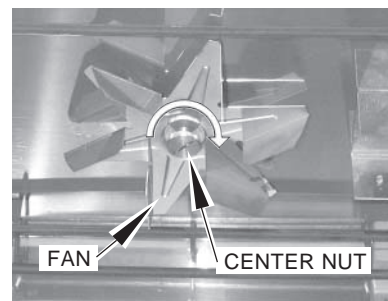

Fig. 38
3. Remove fan blade by unscrewing center nut (clockwise) (Fig. 38).